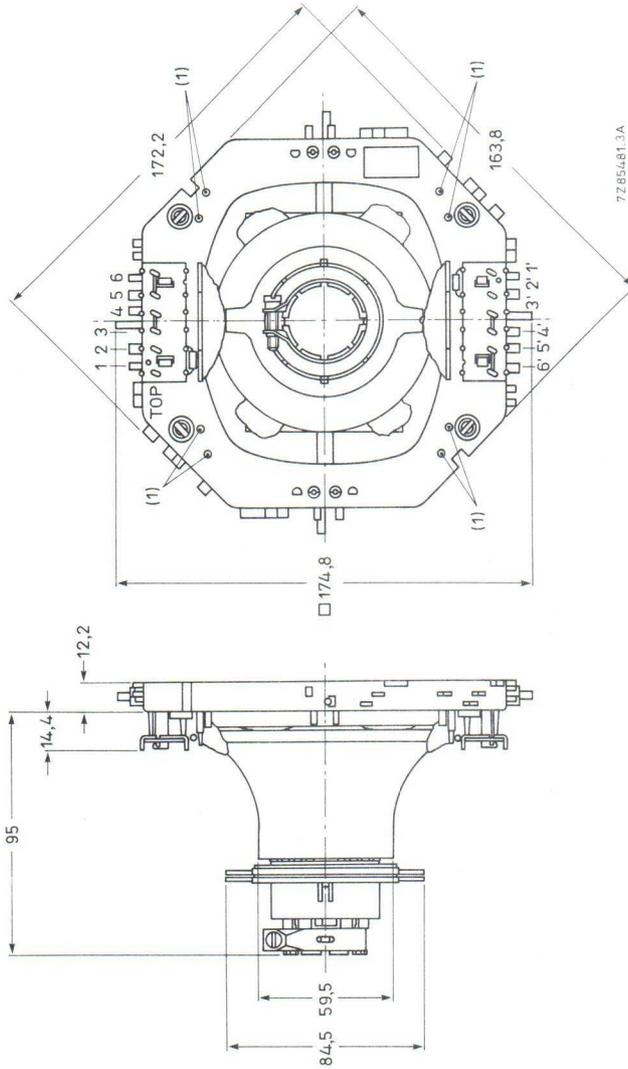

Fig. 1 Deflection unit AT1039/03.
If a further improvement of raster geometry is required use can be made of correction magnets\*, which must be fitted to mounting posts (1). The unit has solder pins for connection. The pin numbering in Fig. 1 corresponds to that in Fig. 2.